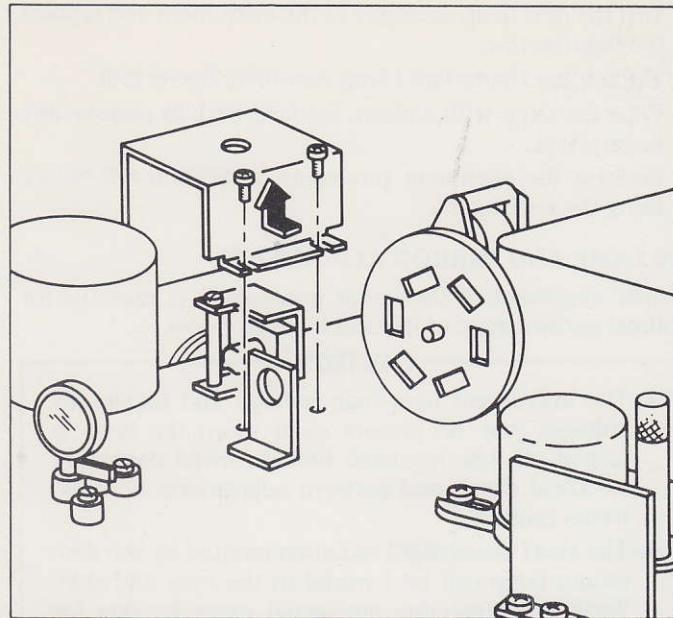

Figure 6-1. Removing the Tungsten-Halogen Lamp Shield.
- c. Remove the Tungsten-Halogen Lamp Shield (29) from the instrument chassis by loosening the two Tungsten-Halogen Lamp Shield Screws (32). The base of the shield is slotted as seen in Figure 6-1, so that you can slide it out from under the two screws and lift it straight up. BE CAREFUL TO AVOID SCRATCHING THE LAMP INTERCHANGE MIRROR (20).
- d. Pull the 2-pin Tungsten-Halogen Lamp (31) straight out from the socket.